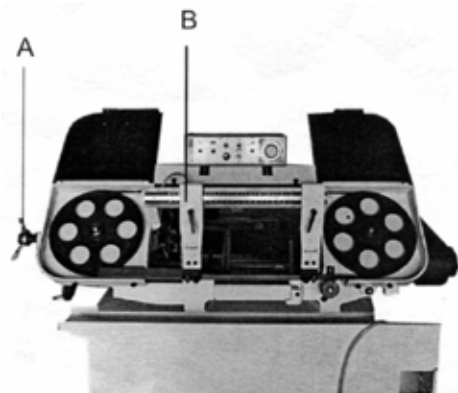

Figure 11. Blade Tensioning Handwheel
4. Release blade tension by turning blade tensioning handwheel (Figure 11, **A**) counter-clockwise until blade is free.